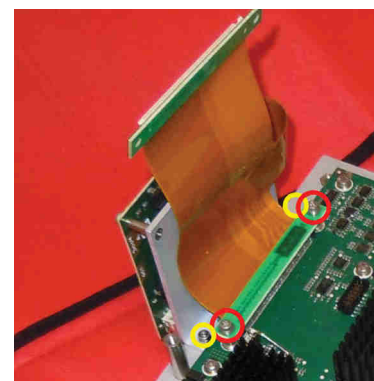

Fig. 7.20 Removal of Board
- 8 Remove two screws and two nuts holding the connector and the support angle, respectively. See Fig. 7.20 (p. 122) - red circles indicate two screws on connector (tools 1/7), yellow circles indicate the two nuts holding the support angle (tools 1/2).